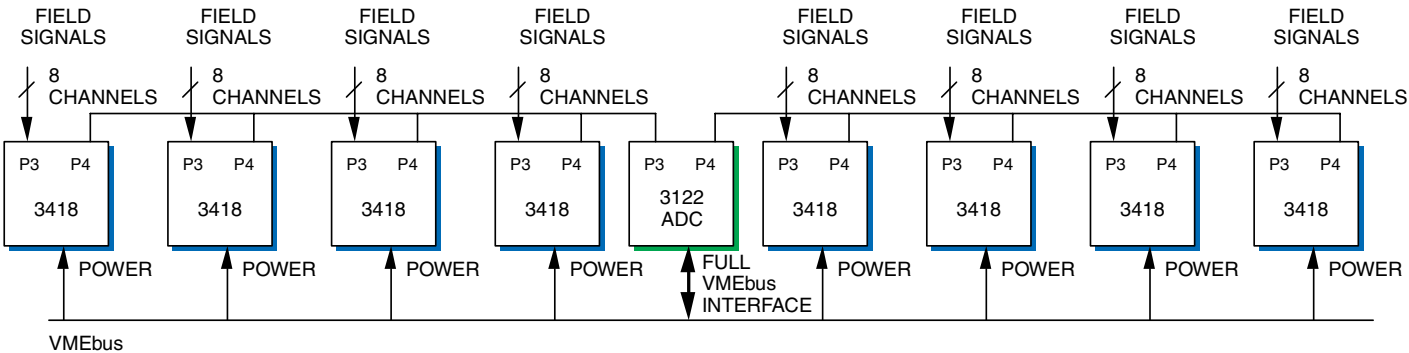

Figure 3. Typical System Implementation Using VMIVME-3122 with VMIVME-3418
**VMIVME-3418:** 8-Channel Strain Gauge and RTD Isolated Signal Conditioning Board. The VMIVME-3418 provides full-scale input ranges from  $\pm 5$  mV to  $\pm 10$  V. Low pass input filters are available with cutoff frequencies of 4, 40, or 400 Hz. See Figure 3 for a typical system implementation of the VMIVME-3418.